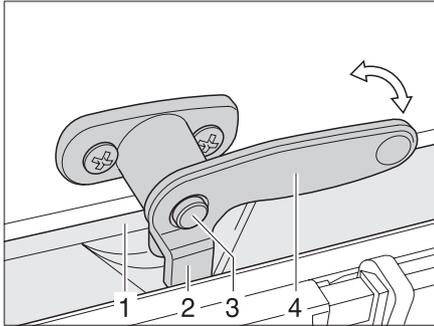

Fig. 24 Catch lever with safety knob in "closed" position
- ▶ If it exists, press the safety knob (Fig. 24,3) down and hold it.